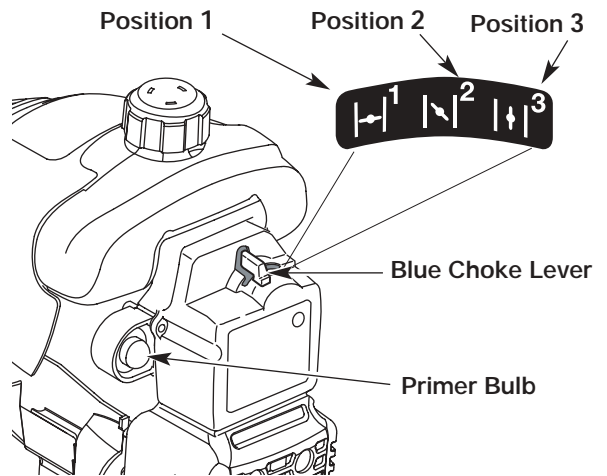

Fig. 25
3. Fully press and release the primer bulb 10 times, slowly. Some amount of fuel should be visible in the primer bulb and fuel lines (Fig. 25). If you can't see fuel in the bulb, press and release the bulb as many times as it takes before you can see fuel in it.
4. Place the blue choke lever in Position 1 (Fig. 25).